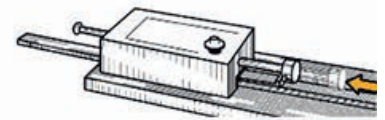

Fig.2
3. Position the Launcher rod to the Speed adjuster (see Fig.2).